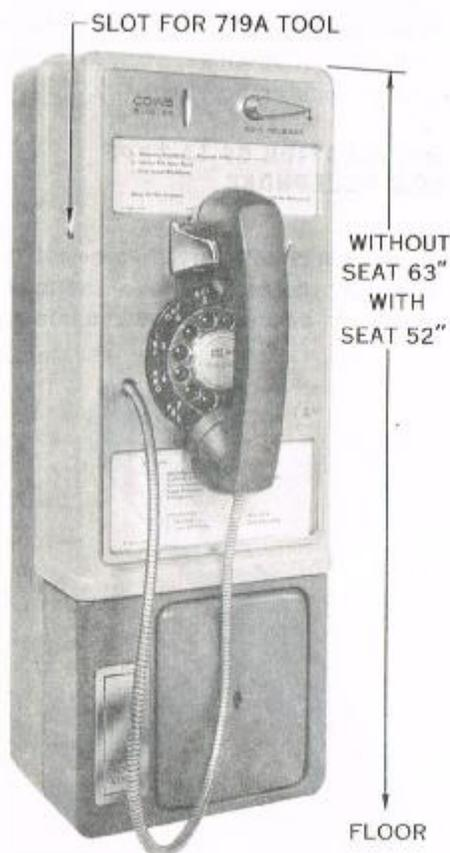
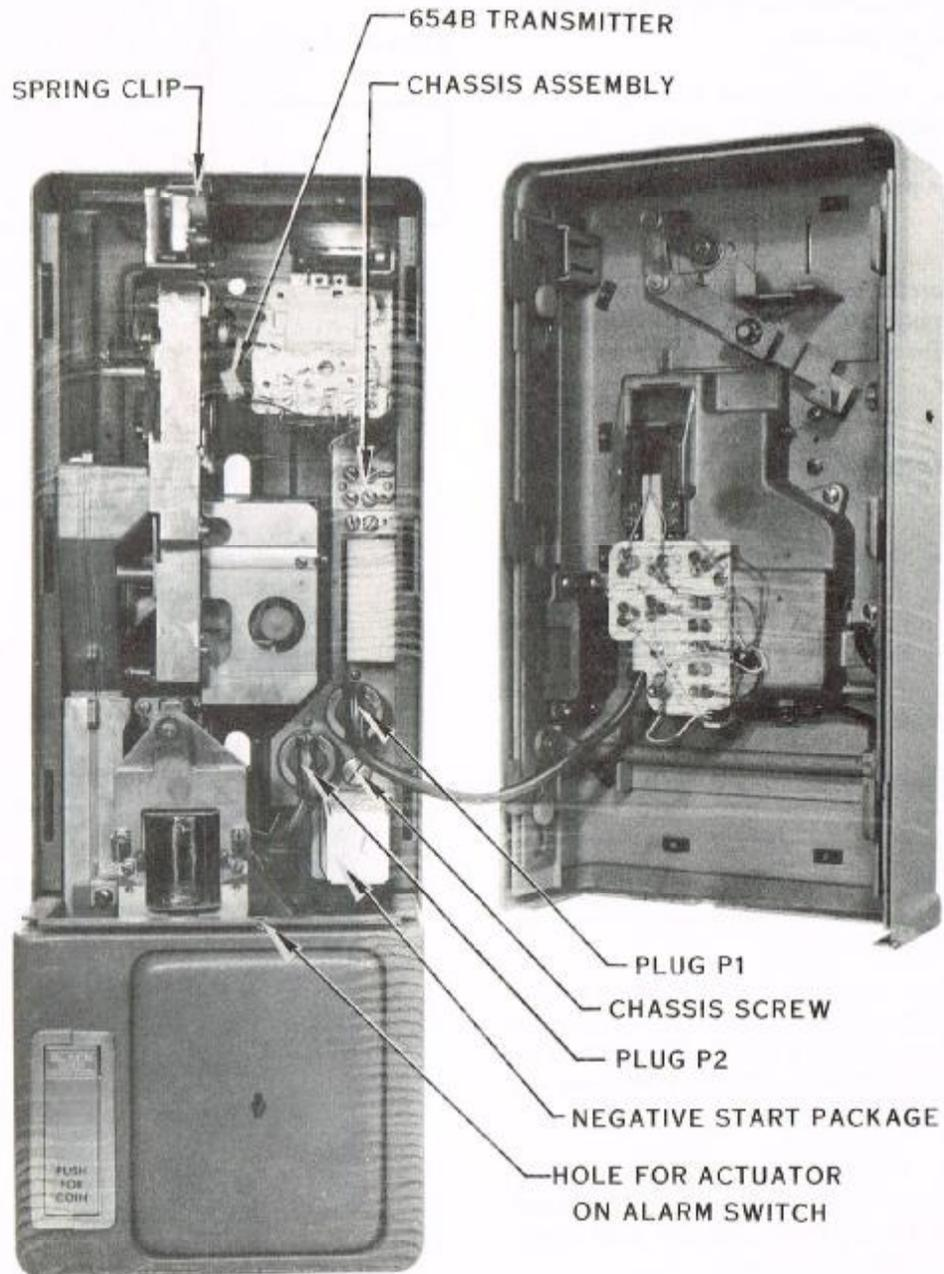

Fig. 1 — 1A1 Coin Telephone
Fig. 4 - 1A-Type Coin Telephone, Internal View
4.03 Fig. 1 shows suggested heights for mounting 1A-type coin telephones. These heights may vary with local conditions or customer requirements.
- (2) Insert the 719A tool (Fig. 3) into the locking mechanism on the left side of cover (Fig. 1).
- (3) Turn tool approximately 1/8 turn, releasing locking mechanism so that cover can be removed.
- (4) Pull plug 1 (Fig. 4) straight out as cover is lifted off. Remove carefully.
- (1) Remove plug 2 (Fig. 4).
- (2) Disconnect 654B transmitter (Fig. 4).
- (3) Release spring clip (Fig. 4).
- (4) Tilt coin chute totalizer assembly forward, then lift up and out.
- (5) Remove nylon tape and wooden packing form from coin chute.
- (6) Remove paper insert to free totalizer coin arms.
5.04 Remove chassis assembly (Fig. 4) as follows:
- (1) Remove black and yellow leads from coin relay.
- (2) Loosen chassis screw (Fig. 4).
- (3) Pull chassis out at bottom.
- (4) Slide chassis assembly down and lift out.
When removing chassis assembly, be careful not to damage negative start package (Fig. 4.)